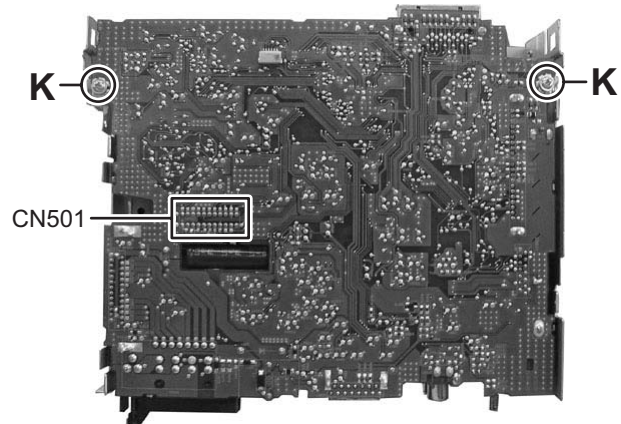

Fig.5
3.1.5 Removing the MAIN BOARD assembly (See Fig.5)